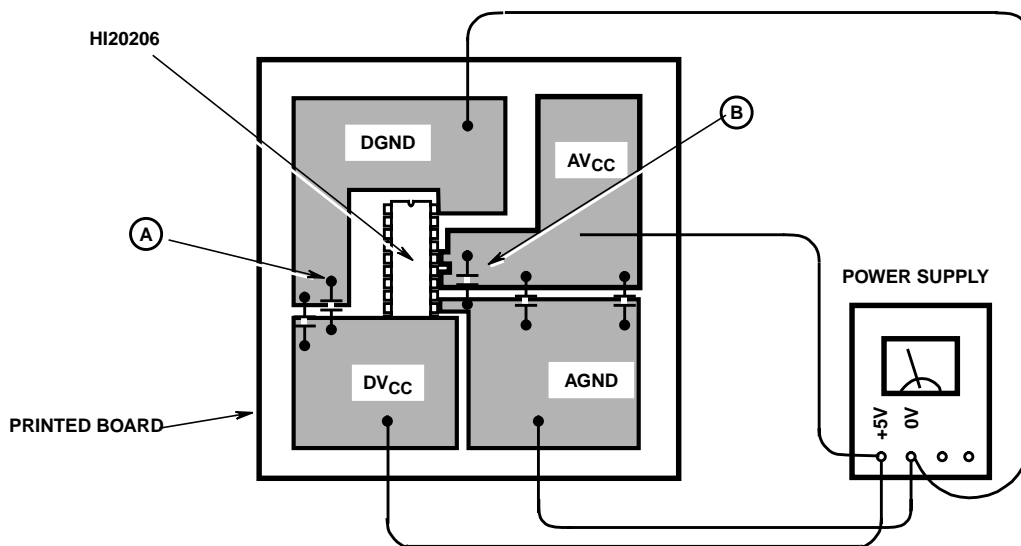

FIGURE 11.
- Insert in parallel a 47 $\mu$ F tantalum capacitor and a 100pF ceramic capacitor between the  $V_{CC}$  surface on the printed board and the nearest ground surface. (A of diagram below). It is also desirable to insert the above between the  $V_{CC}$  surface near the pin of the IC and the ground surface (see Figure 11). They are bypass capacitors to prevent bad effects from occurring to the characteristics when the power supply voltage fluctuates due to the clock, etc.